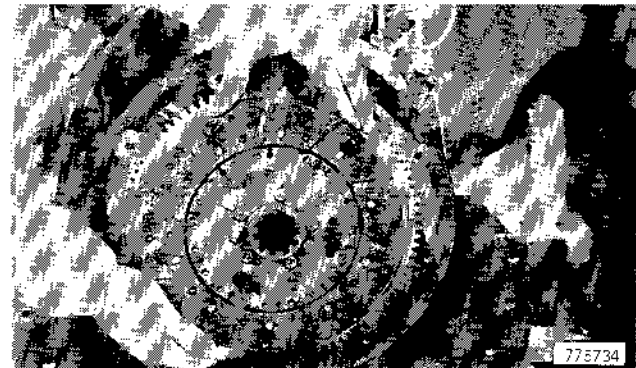

Figure 113
18. Install the outer clutch disc as shown in Figure 113. Outer clutch disc has the words "flywheel side" stamped on it.